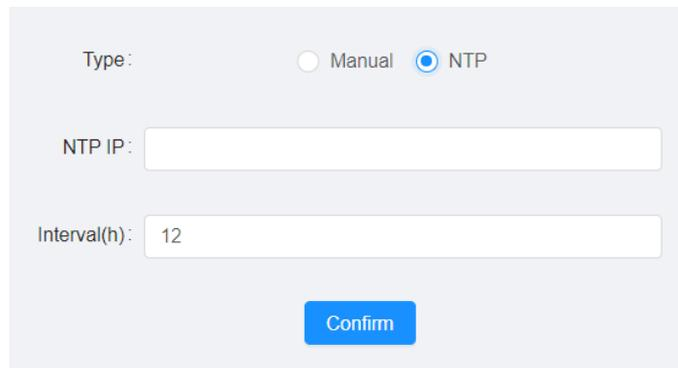

Figure 4.9 NTP Time Calibration
2) NTP time calibration: The NTP server address, NTP port number and calibration time intervals can be set. The device can calibrate periodically according to the settings. Before use, external NTP server needs to be set up, as shown in Figure 4.9. Figure 4.9 NTP Time Calibration